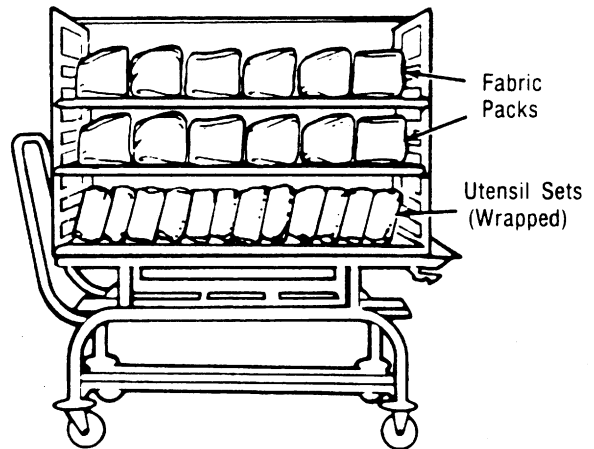

Figure 19. PLACE UTENSIL SETS ON LOWER SHELF IN COMBINED LOADS.
b. Place utensil set(s) on the lower shelf of a loading car in loads which combine fabrics and hard goods (Figure 19).